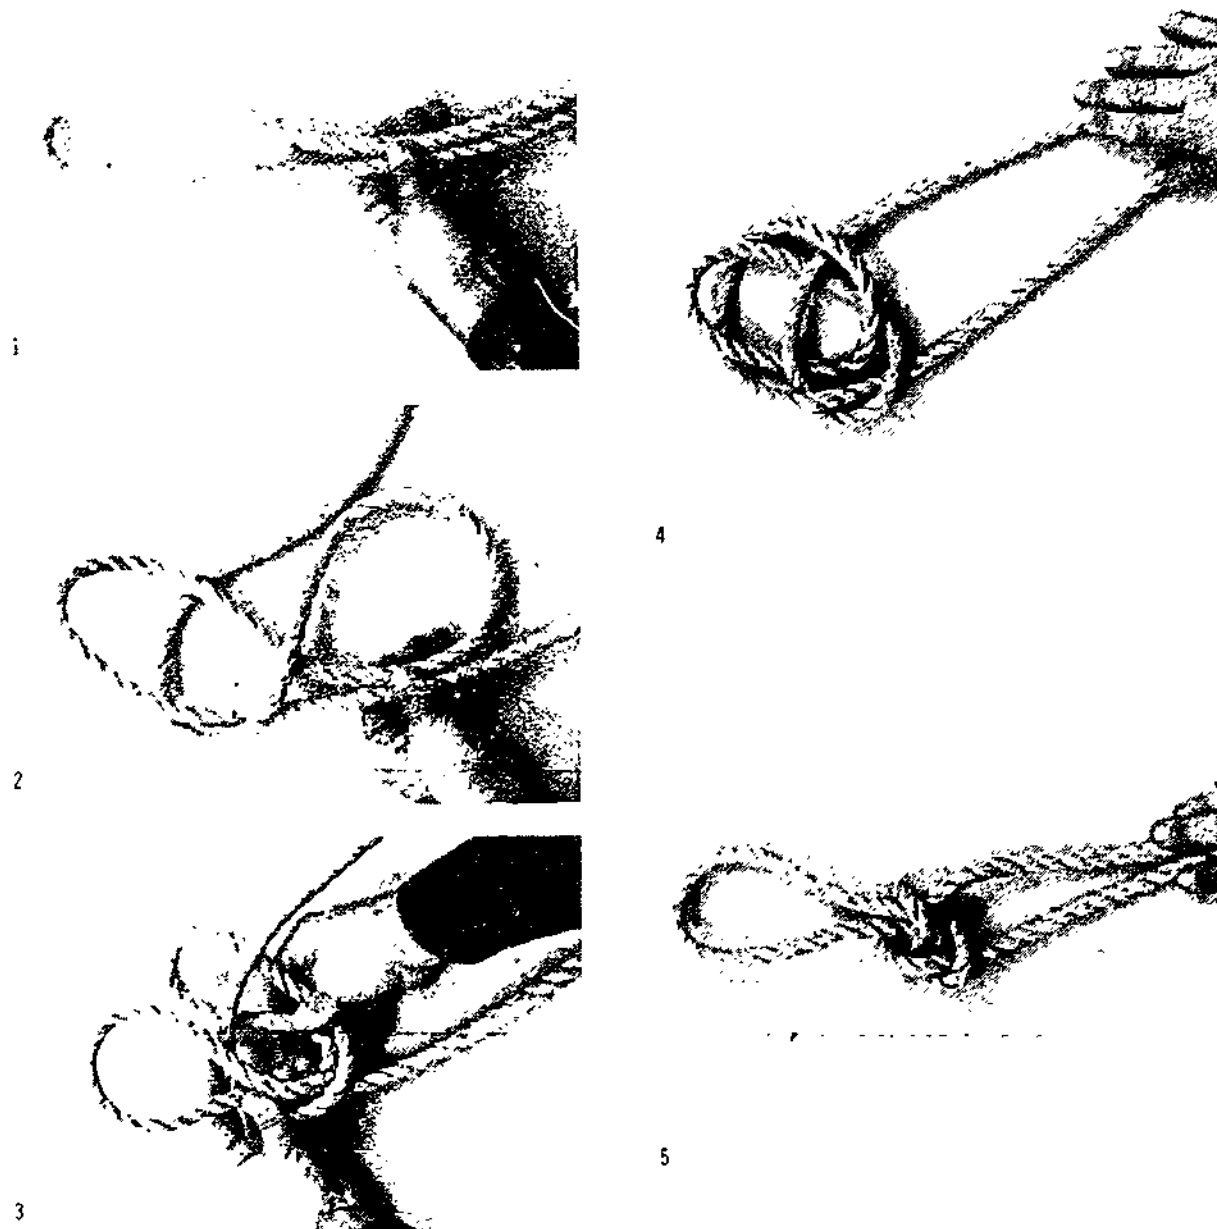

Figure 7-15. Tying a Harness Hitch
- 6 The **harness hitch** produces a loop in a line which will not slip. Figure 7-15 illustrates the steps in tying the harness hitch.